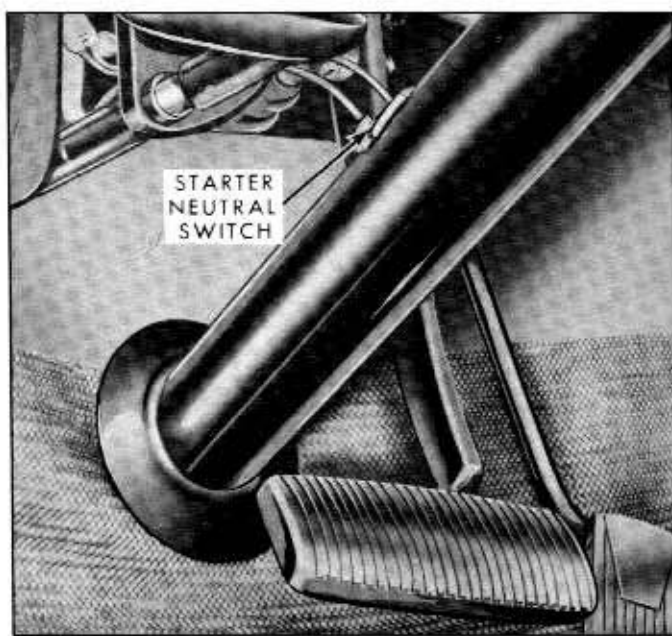

Fig. 7A-6—Starter Neutral Switch Location—(60C-4406)
4. Insert the reverse band adjusting spacer, Tool 7355-A, between the adjusting nut and the piston rod to actuating lever seat. Refer to figure 7A-41.